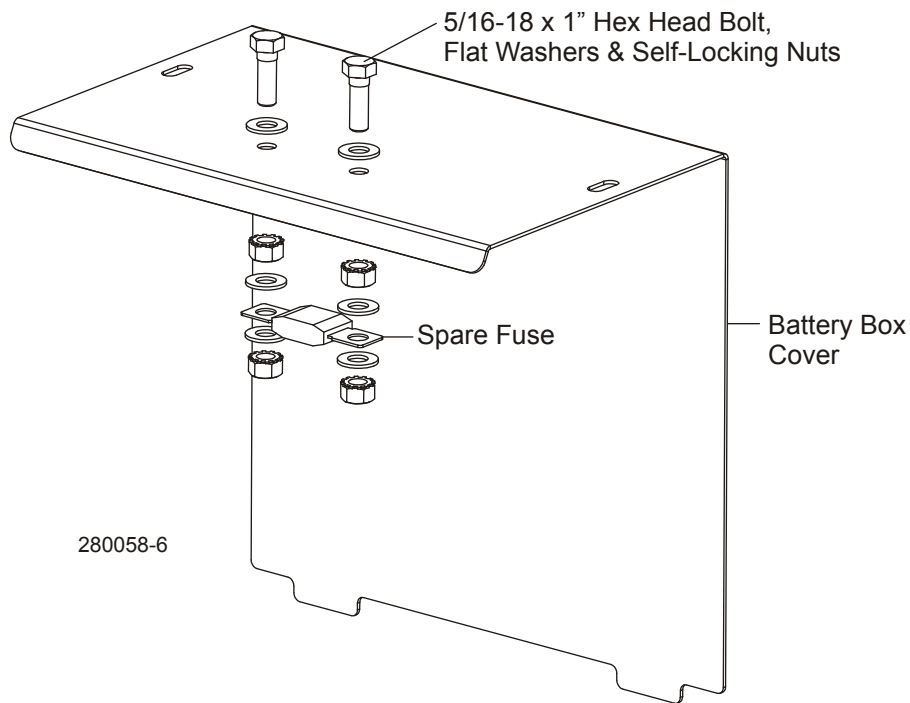

**FIGURE 7**
**See Figure 7.** Continue the longer motor harness through the hole in the left side of the battery box and connect the wires to the feed motor wires (red to red; black to black). Remove the plastic cover from the fuse box inside the battery box. Connect the fuseholder wire with large ring terminal to the right terminal of the fuse as shown below. Connect the other fuseholder wire to the red control box wire. Slide the piece of provided 3/8" tubing over one of the wires, connect the two wire ring terminals with the #10-24 x 3/8" screw and self-locking hex nut provided. Slide the tubing over the terminal connection. Connect the black control box wire to the negative post on the battery.